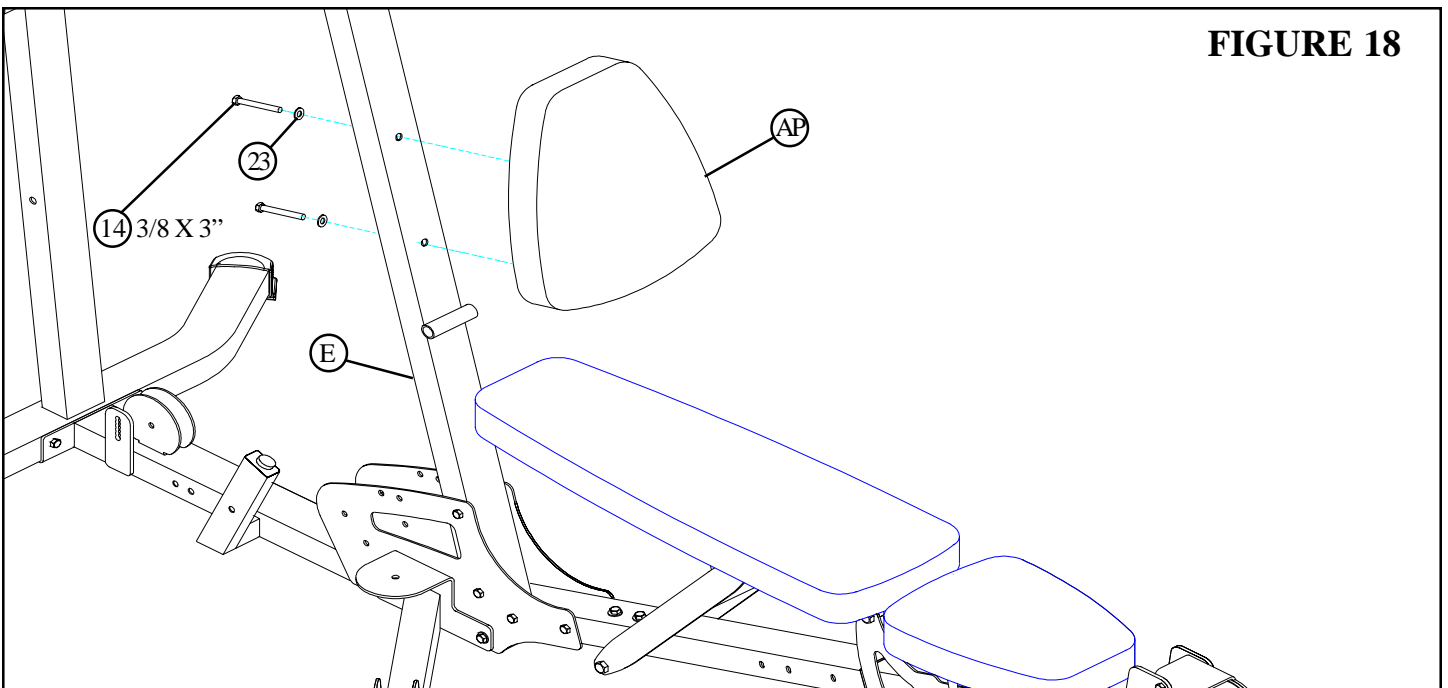

FIGURE 18
- **SECURELY** assemble one BACK PAD (AP) to the FRONT FRAME (E) using two 3/8 X 3" BOLTS (14) and two 3/8" WASHERS (23). See FIGURE 18.